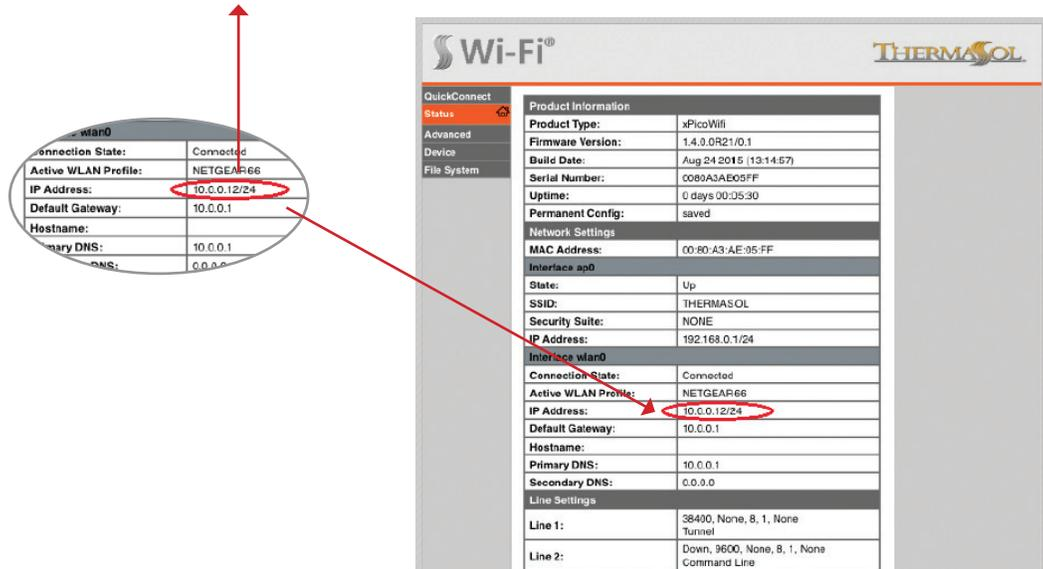

Figure 23: SWM-2 WLAN IP address circled in red
9. Make a note of the assigned IP Address as shown below in Figure 23. Use only the portion of the address that precedes the forward slash, 10.0.0.12 in this example (the IP address shown is for illustration purposes only, the customers assigned IP address may differ)